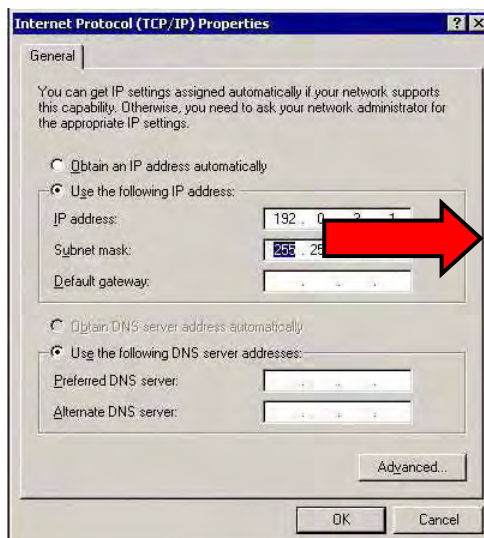

Figure 5
3. Configure the requested fields as follows (Figure 5):